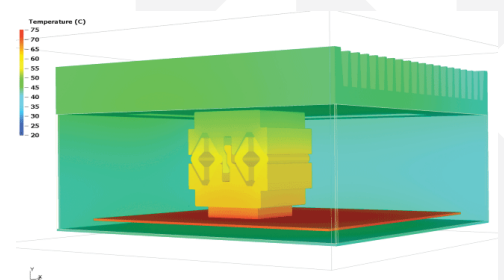

Figure 9
- The integrated springs within the FHC allow the aluminum block to expand and contract vertically thereby eliminating the need for a thermal gap pad (figure 9).